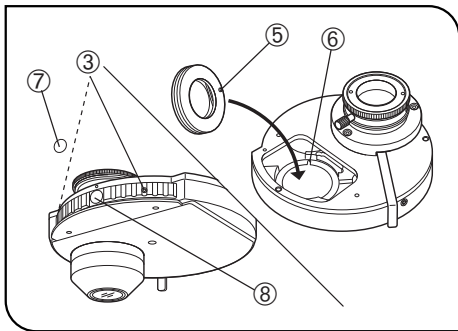
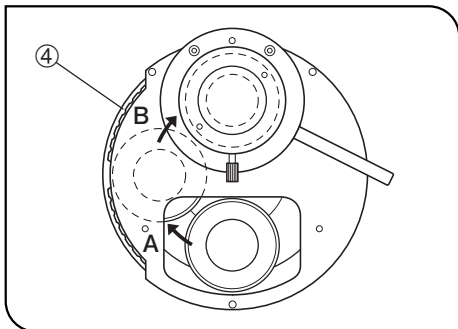

Fig. 36
Fig. 37
2. Remove the condenser cover ① by loosening the retaining screws ② using a coin, etc.
- Using the dedicated knob provided with the condenser, loosen the two DIC prism clamping screws ③ until the rotatable limits.
- Rotate the turret by 90° counterclockwise, and drop in the DIC prism by aligning its positioning pin ⑤ with the positioning groove ⑥ in the hole of the turret ④ (Fig. 36).
- A. Rotate the turret ④ by 90° clockwise (Fig. 37) and tighten the two DIC prism clamping screws ③ uniformly using the dedicated knob provided with the condenser. (Figs. 36 & 37)
- B. Rotate the turret ④ by 90° clockwise (Fig. 37), and attach the index sticker ⑦ provided with the DIC prism onto the side ⑧ of the condenser turret ④ so that the index sticker is upside down. (Figs. 36 & 37)